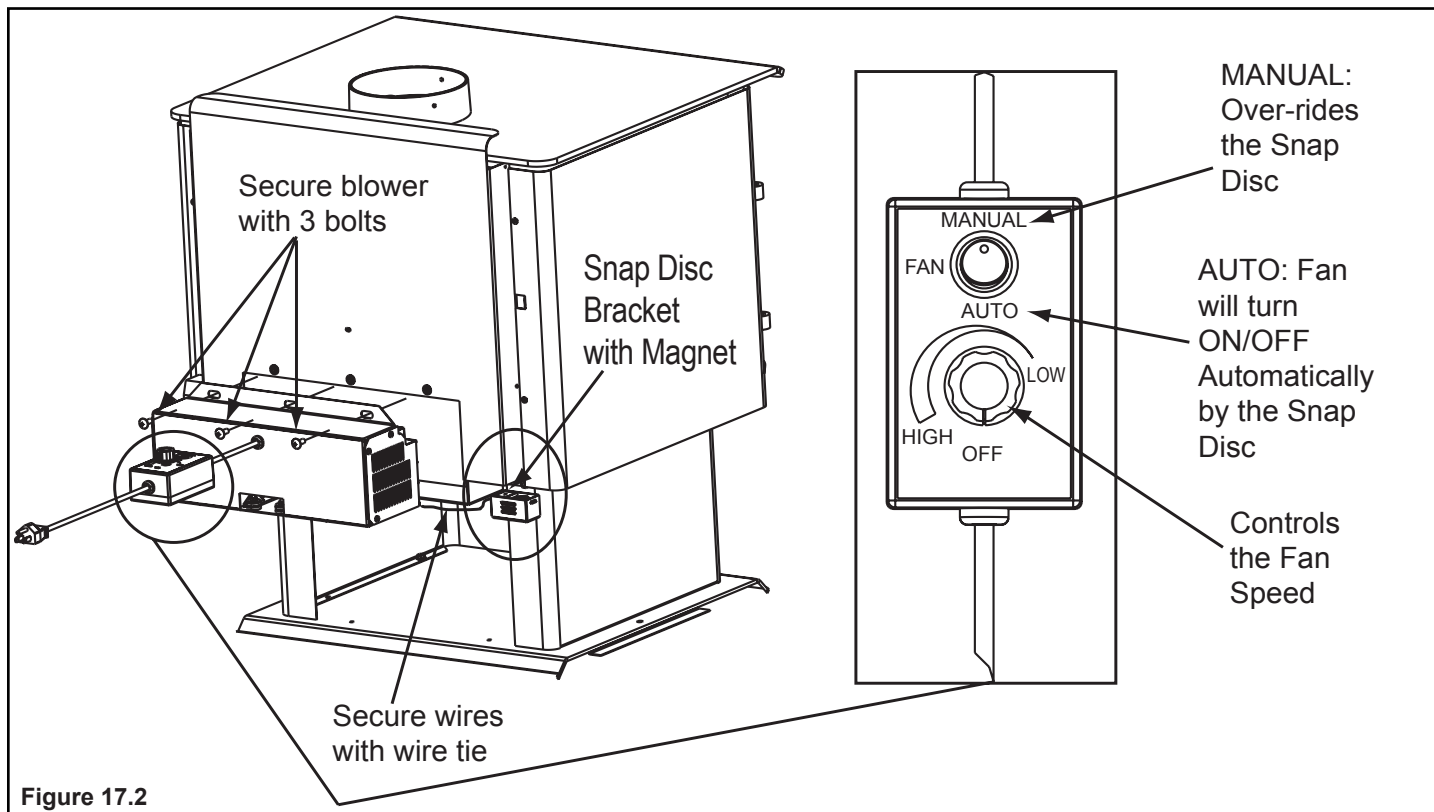

Figure 17.2
2. Align holes in mounting flange of blower with bolt holes in appliance. Blower should be positioned at bottom of rear outer skin as shown in Figure 17.2